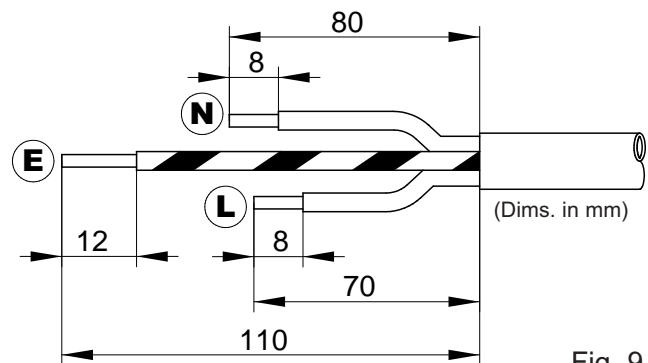

Fig. 9
2. Strip and prepare the cable sheath and insulators as shown in Fig. 9.